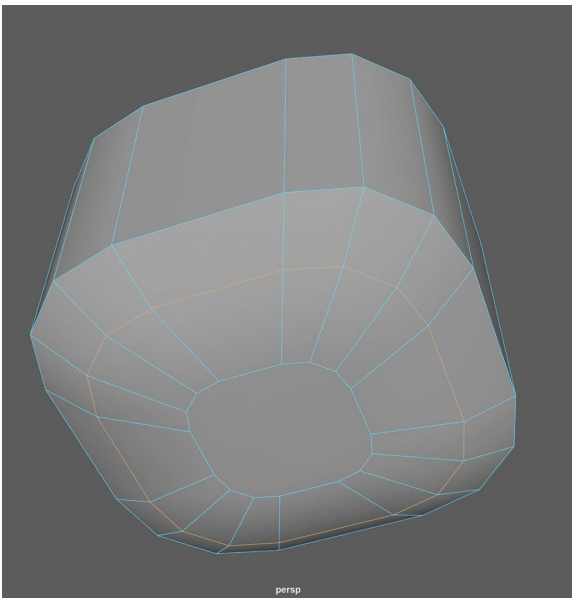

FIGURE 1.26 Adding new faces and edges to round off the bottom of the base.
Step 23: Base bottom shell. Select the bottom face and extrude it down. Scale the new faces down to match Figure 1.26. Next, go to Multi Cut tool, and in the Modeling Toolkit, toggle on Edge flow under the Cut/Insert Edge Loop Tool section. Add an edge loop to the middle of the newly extruded segment. In Figure 1.26, you can see how edge flow automatically added the curvature.